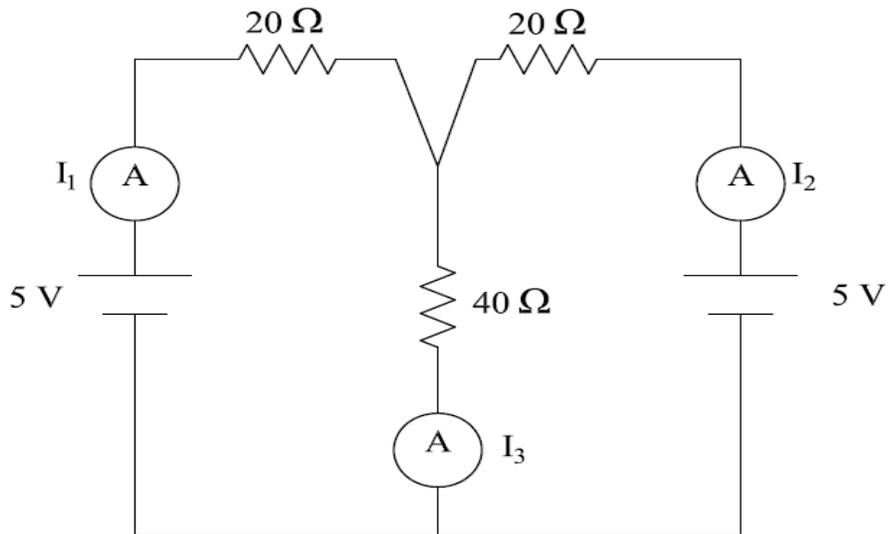

Fig 3 : experimental circuit of part 2
1. connect the circuit of fig 3